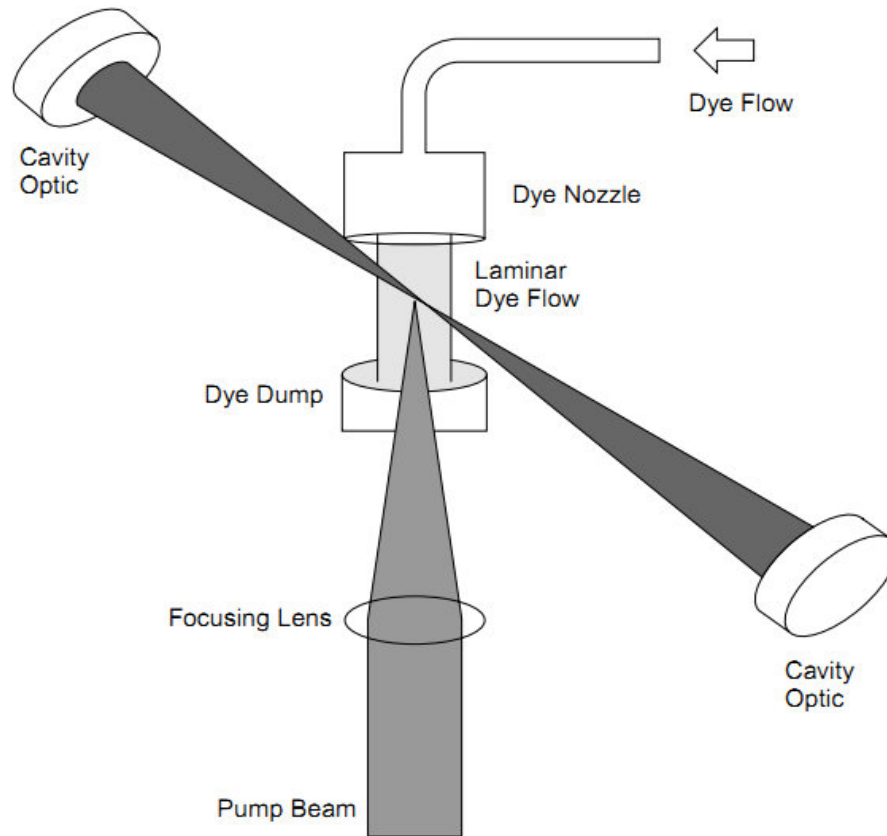

Figure 6: CW dye laser.
- A typical CW dye laser arrangement is shown in Figure 6. Like most dye lasers, intracavity wavelength selectors are also often included (although they are not shown in the figure).